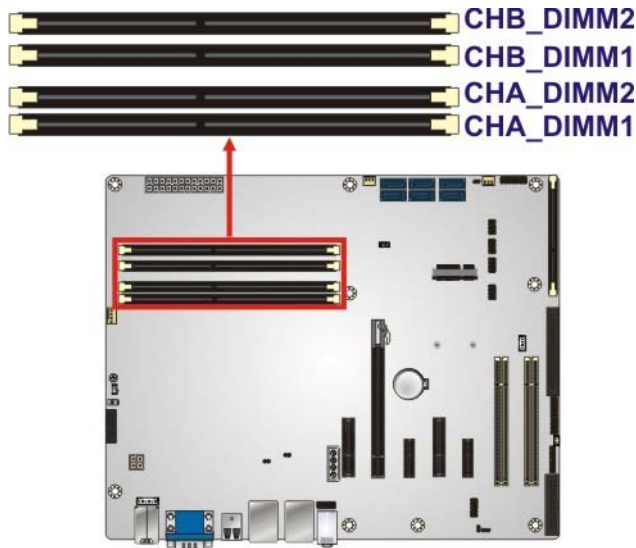

Figure 3-7: DDR3 DIMM Slot Locations
- CN Location:** See **Figure 3-7**